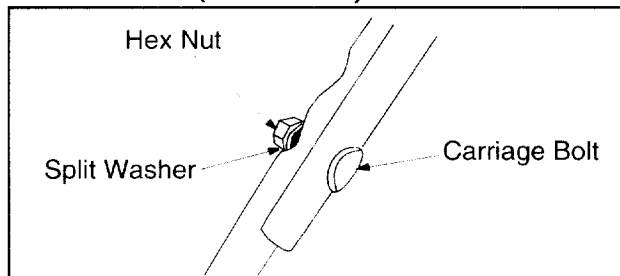

Figure 5
- Secure the upper handle to lower handle using the carriage bolts, split washers and hex nuts as shown in Figure 5. The head of the carriage bolts go on the outside of the handle.